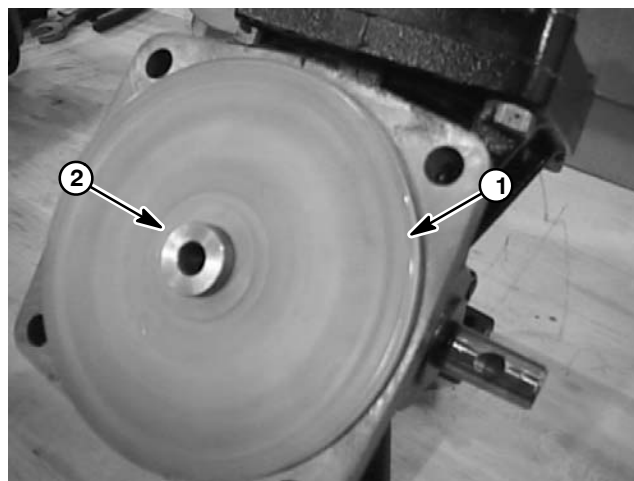
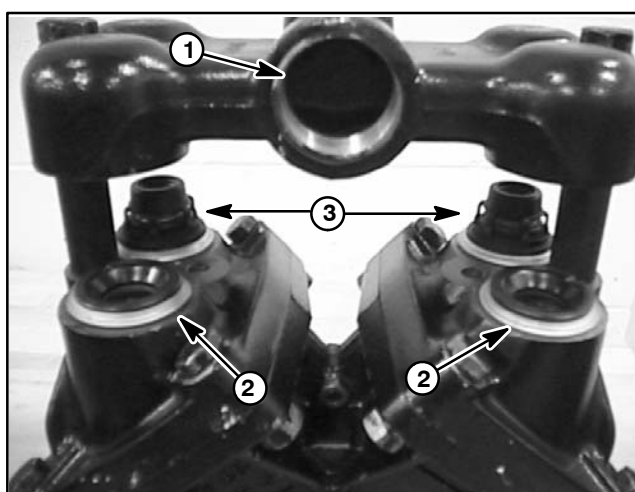

Figure 11
Figure 12
4. Place diaphragm back disc and new diaphragm onto each connecting rod. The connecting rods should extend above the diaphragms when correctly installed (Fig. 11). Position nylon washer and washer on each connecting rod and then thread hex bolt into connecting rod. Torque bolt to 60 ft-lb (81 N-m).
5. Make sure that pump casings align and then secure pump casing assembly by torquing five (5) bolts to 32 ft-lb (43 N-m).
7. Place new o-rings and valves into diaphragm cover openings (Fig. 12). Inlet valves should be installed with the spring down into the cover. Outlet valves should be installed in with the spring up and away from cover.
8. Place valve chamber over valves noting orientation of chamber inlet and outlet. Secure valve chamber with two (2) hex bolts. Torque bolts 60 ft-lb (81 N-m).